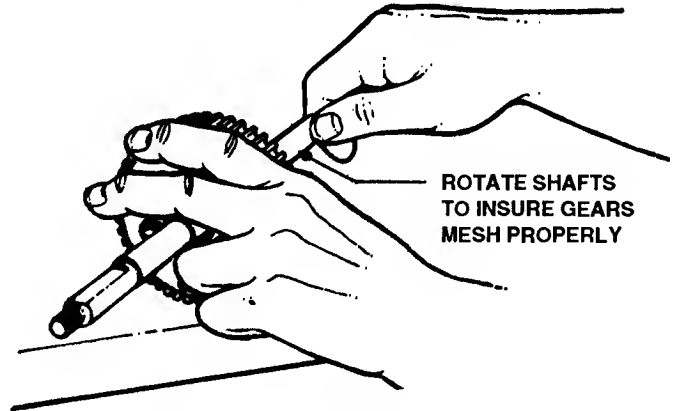

FIGURE 5.13
19. Test Rotate Shafts to insure Gears mesh properly before installing completed Bull Gear - Axle Assembly in Transmission Housing. See Figure 5.13.